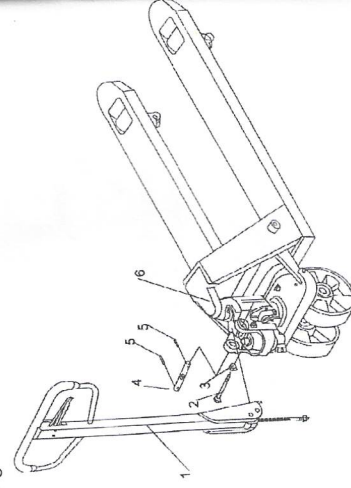

Fig.5 Tiller assembling
- c) Press the tiller arm down; take away the pin (2, Fig. 5).
- d) Set the control lever of the handle to 'RAISE' position, then raise the lever plate with the pin (2, Fig. 5) and insert the adjusting bolt into the front slot of lever plate. Note: Keep the adjusting nut under the lever plate.
- e) Use a hammer to insert the 2nd dowel pin (5 Fig. 5) into the 2nd hole of the axle. The draw-bar is now assembled to the pump.